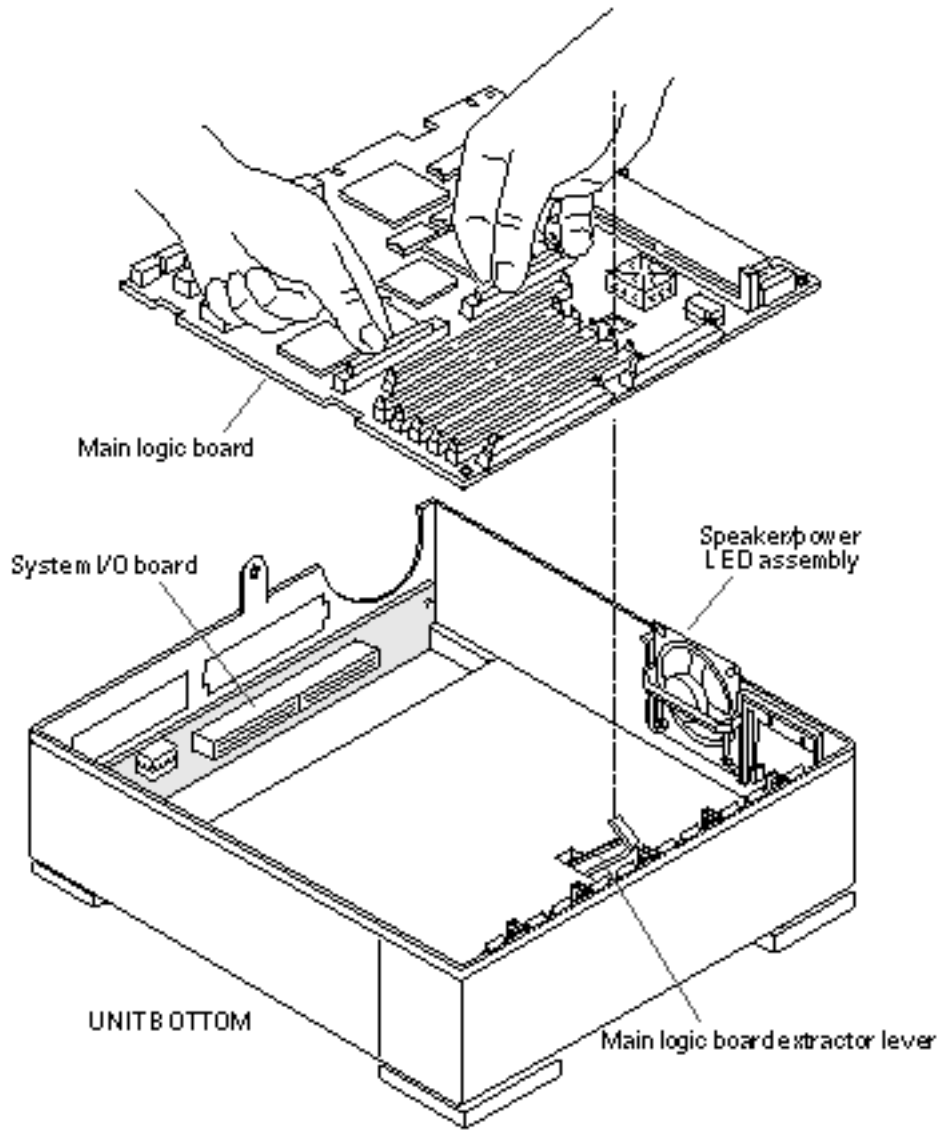

Figure 11-17 Removing and Replacing the Main Logic Board
**a. Grasp the board by the SBus connectors with both hands and guide the main logic board extractor lever through the rectangular cutout in the main logic board (see Figure 11-17). Avoid handling any of the delicate electronic components or touching any of the circuit board traces.**